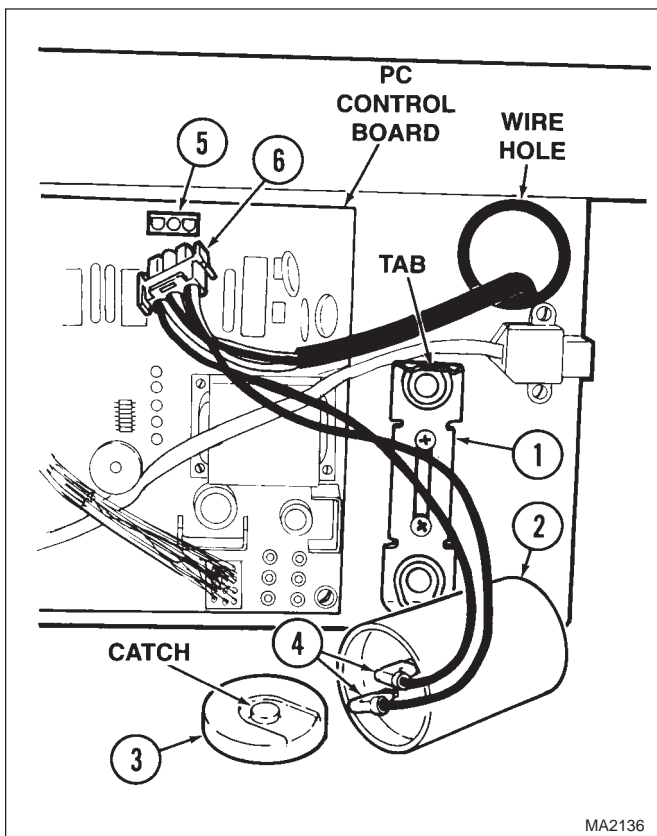

Figure 4-10. Base Actuator Electrical Disconnection/Connection
- (7) Support the table top by positioning supports or jacks under the foot section and head section of the table top **or** if the base actuator is operable, move the table top until the middle slide support hole lines up with the top of the outer slide, and then insert a 3/8 inch diameter steel rod thru the middle slide support holes, making sure the steel rod sticks out past both sides of the outer slide. Lower table top until it is fully supported by steel rod.
- (8) Disconnect electrical power from the surgery table.
- (9) Using a screwdriver, pry tab of capacitor mounting bracket (1, Figure 4-10) upward and remove base capacitor (2) from capacitor mounting bracket.
- (10) Remove capacitor cap (3) from base capacitor (2).
- (5) Install hole plug (9) in access hole of outer shroud (10).
- (6) Position base actuator wire harness (2) and base transducer wire harness (3) on motor housing of base actuator (4) and secure with cable tie (1).
- (7) Feed the base actuator wire harness (6, Figure 4-10) out thru the wire hole.
- (8) Connect wire harness (6) to connector (5).
- (9) Connect two wires (4) to terminals of base capacitor (2).
- (10) Install capacitor cap (3) on base capacitor (2).